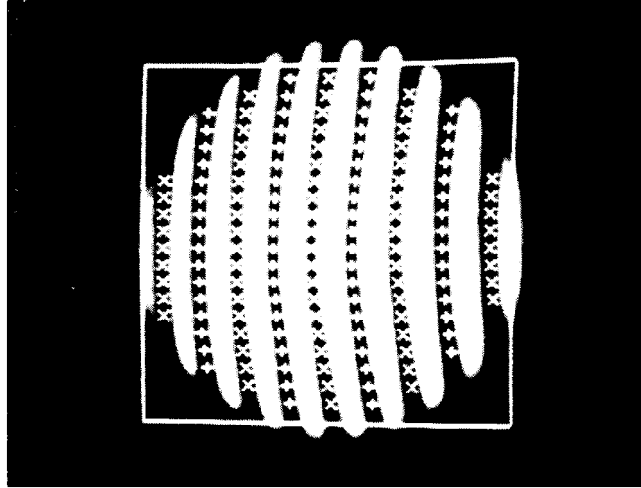

Figure 7-5 Fringe Centers
12. Press the MEASURE button. The processor acquires and automatically displays fringe center data. See Figure 7-5.